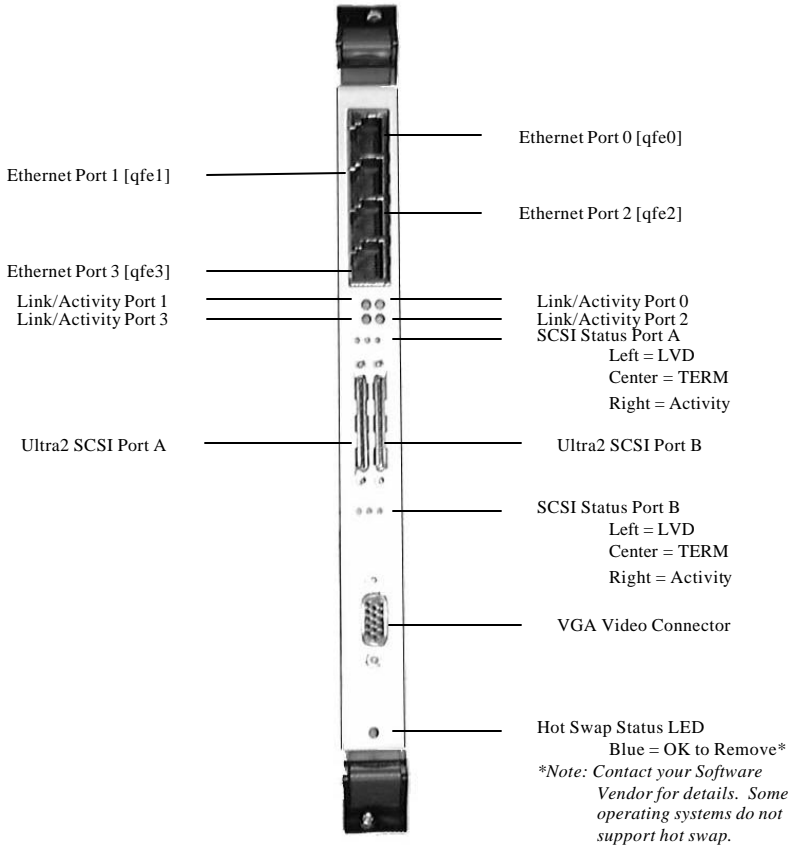

Figure 1: ITI-8241C-S I/O Connector Configuration
handle is qfe0. See Figure 1 for location of the ports, and Appendix A for connector pin-out.
8. Connect any SCSI devices to the SCSI connectors (see figure 1), following the guidelines in the "Configuring the SCSI Bus" chapter of this manual.
9. Plug your VGA monitor into the 15-Pin VGA port shown in figure 1.
QUICK CHECK: *If the LVD LED (see Figure 1) is ON, the bus is capable of Ultra2 (80MB/sec) performance. If the LED is OFF the bus is capable of 40MB/sec.*
QUICK CHECK: *If the TERM LED (see Figure 1) is ON the ITI-8000 Series adapter is terminating the bus. If you are using the “Y” configuration as described above, the termination LED must be OFF.*